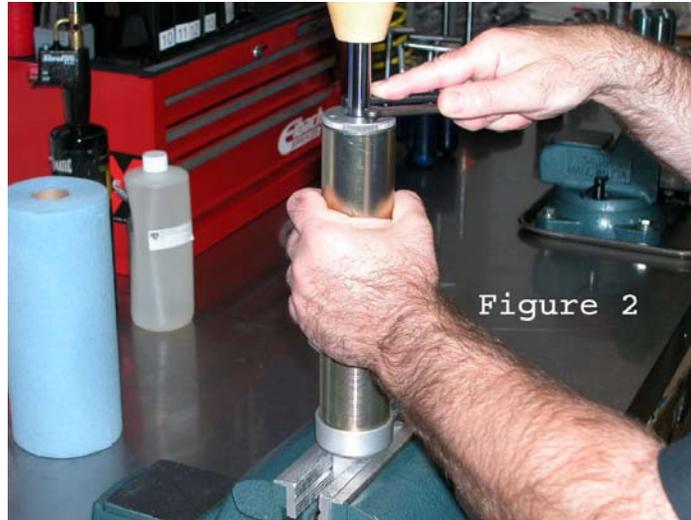

Figure 2
9. Using a 3/32" Hex Key, loosen the bearing cap set screw. Use pin spanner tool to unscrew the bearing cap, and slide the bearing cap up to the bottom-out bumper. (**Fig. 2**) Remove shock from the vice.